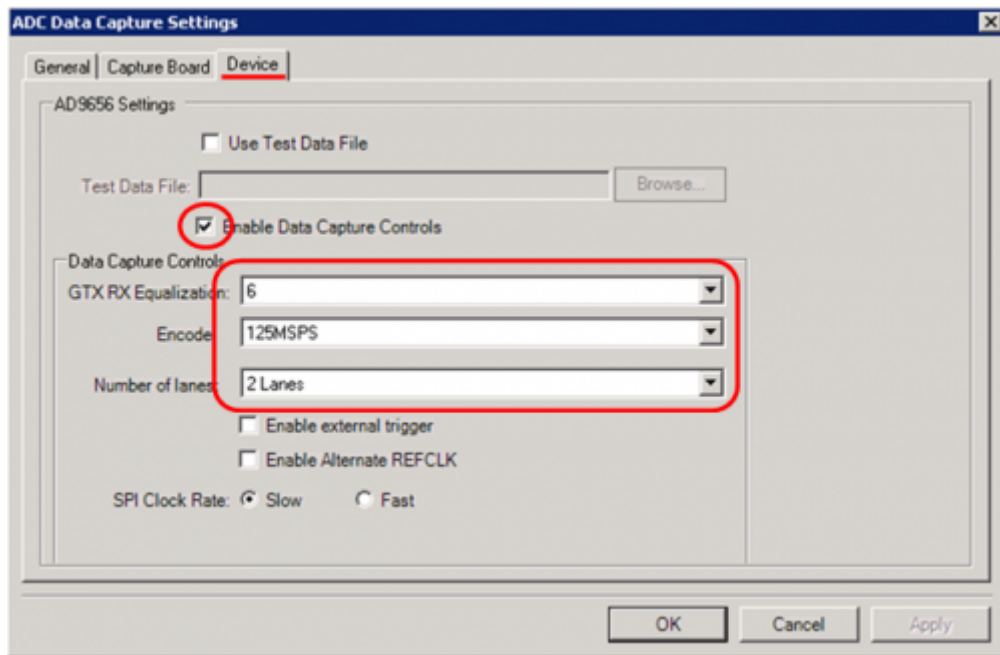

Figure 10. VisualAnalog ADC Data Capture Settings Window, Device Tab
- In the **ADCBase1** tab of the **SPIController** window, set the number of lanes the AD9656 will be configured to. Note that the number of lanes selected here must match the settings made in VisualAnalog as shown in Step 7, Figure 10 above.